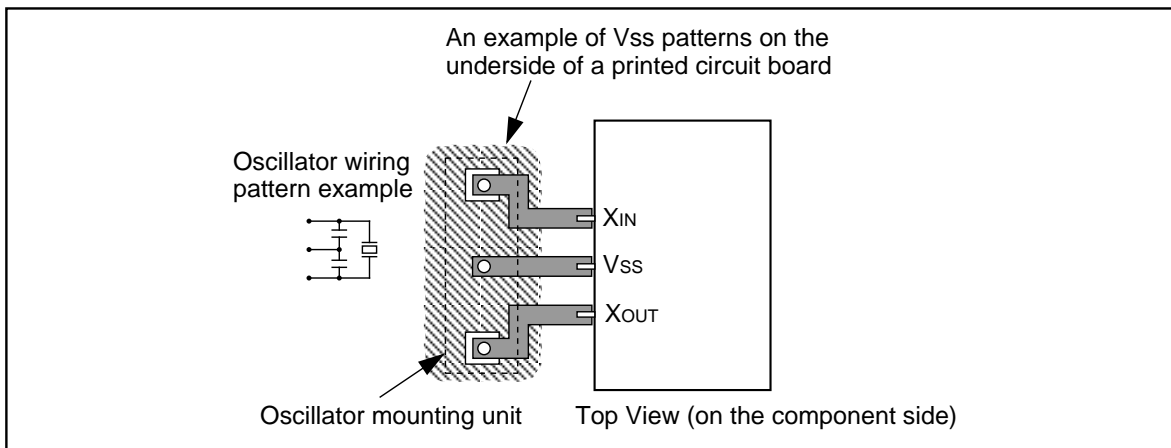

Figure 1.4.3. VSS pattern on the underside of an oscillator
- Separate the VSS pattern only for oscillation from other VSS patterns. (See Figure 1.4.3.)